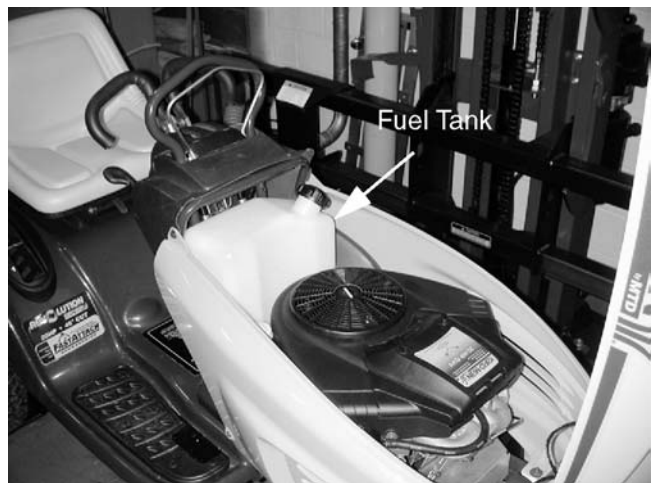

Figure 11-37
1. Open the hood. See Figure 11-37.